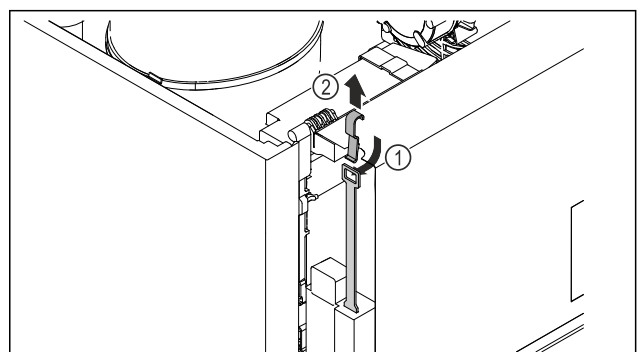

Fig. 209
- Push the emergency release key in from the top Fig. 209 (1), hook it into the lock and pull up Fig. 209 (2).